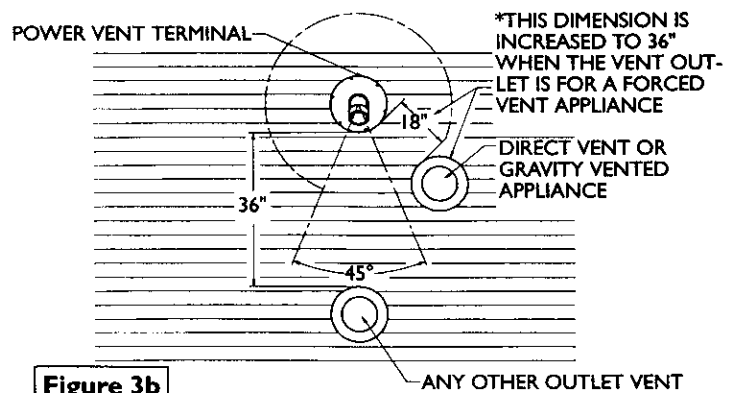

Figure 3b
- 18" minimum from other gravity or natural appliance outlet vents when directly above or 135° to either side of center line. Figure 3b.
- 36" minimum from any outlet vents when directly below or 45° to either side of center line. Figure 3b.
- 36" minimum in all directions from any other forced air appliance outlet vent. Figure 3b.